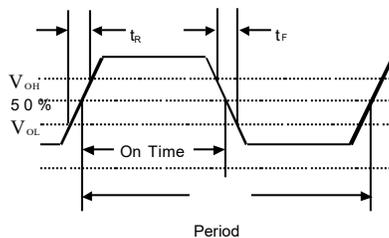
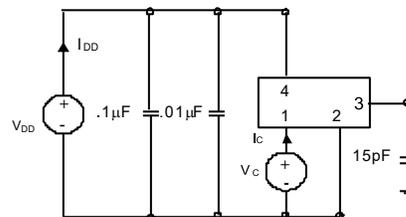

Figure 3. Output Waveform
Figure 4. Typical Output Test Conditions ($25 \pm 5^\circ\text{C}$)
2. Figure 3 defines these parameters. Figure 4 illustrates the operating conditions under which these parameters are tested and specified. For $f_O > 90\text{MHz}$, rise and fall time is measured 20 to 80%.